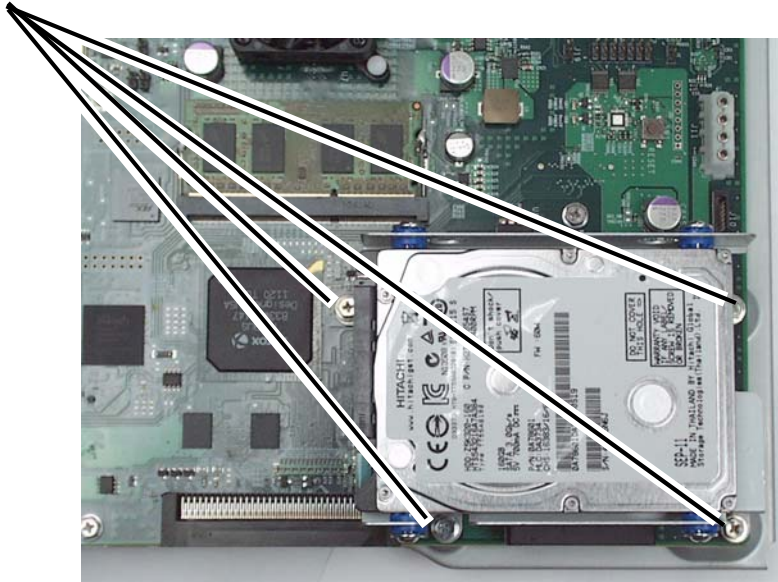

Figure 2 Removing Replacing the Disk Drive
6. Remove the screws (4) (Figure 2).